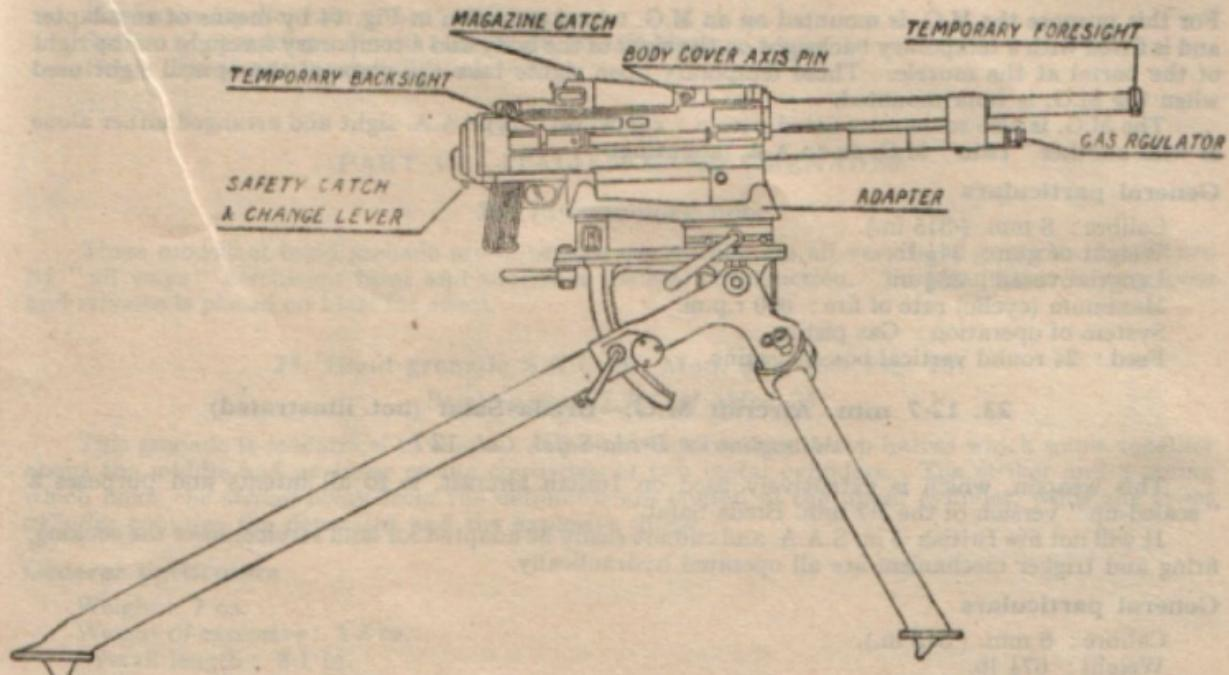

FIG. 14.—8 MM. M.M.G. MOD 38—BREDA
22. 8 mm. Medium M.G., Mod. 38—Breda. (Fig. 14)
For this purpose the M.G. is mounted on an M.G. tripod as shown in Fig. 14 by means of an adapter and is fitted with a temporary backsight on the right of the body and a temporary foresight on the right of the barrel at the muzzle. These temporary open sights take the place of the optical sight used when the M.G. is tank mounted.